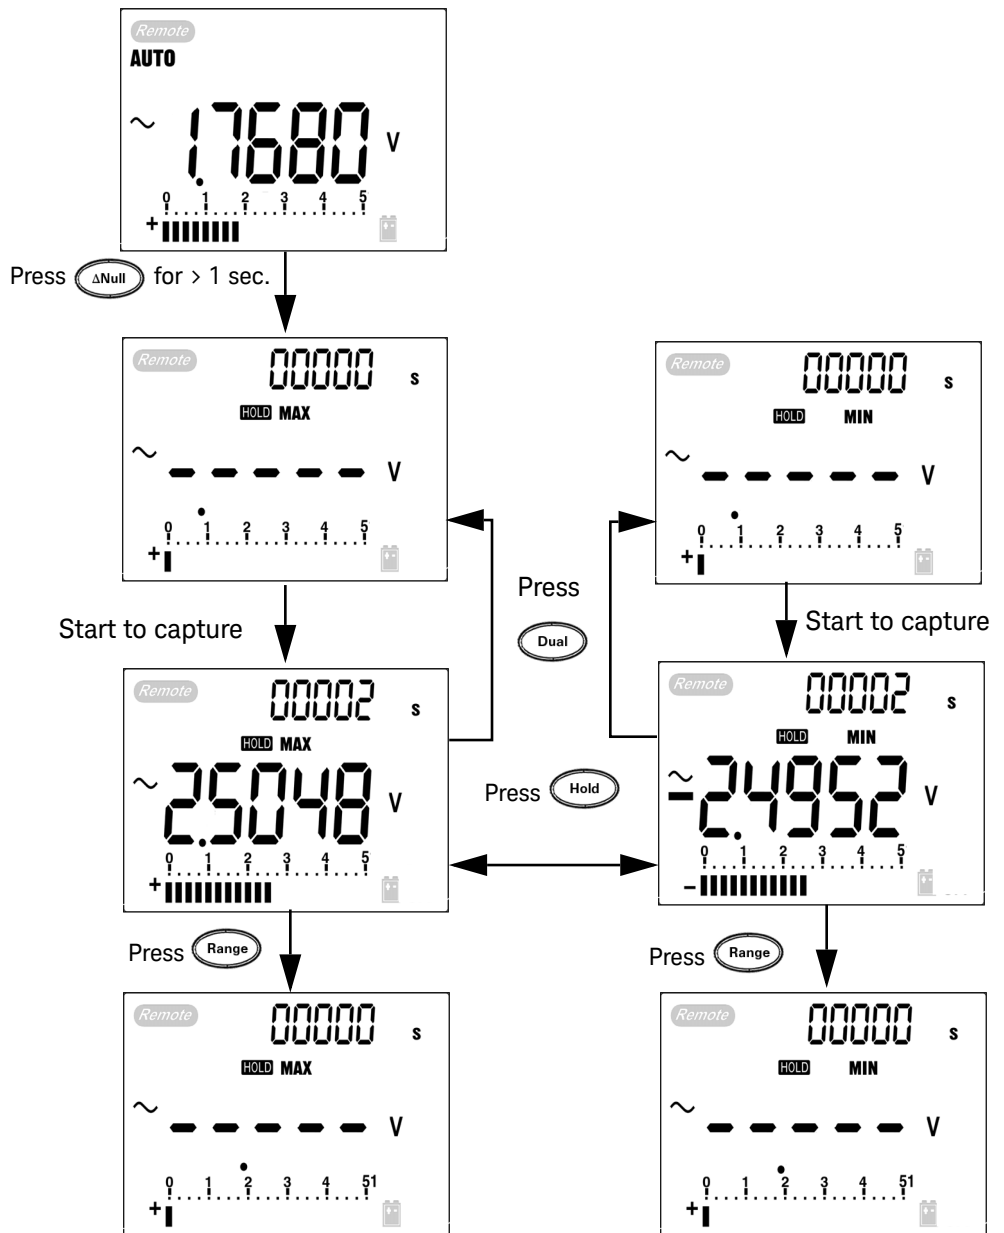

Figure 3-6 1ms peak hold mode operation
- 4 According to the measurements shown in Figure 3-6 on page 88, the crest Factor will be $2.5048/1.768 = 1.416$.